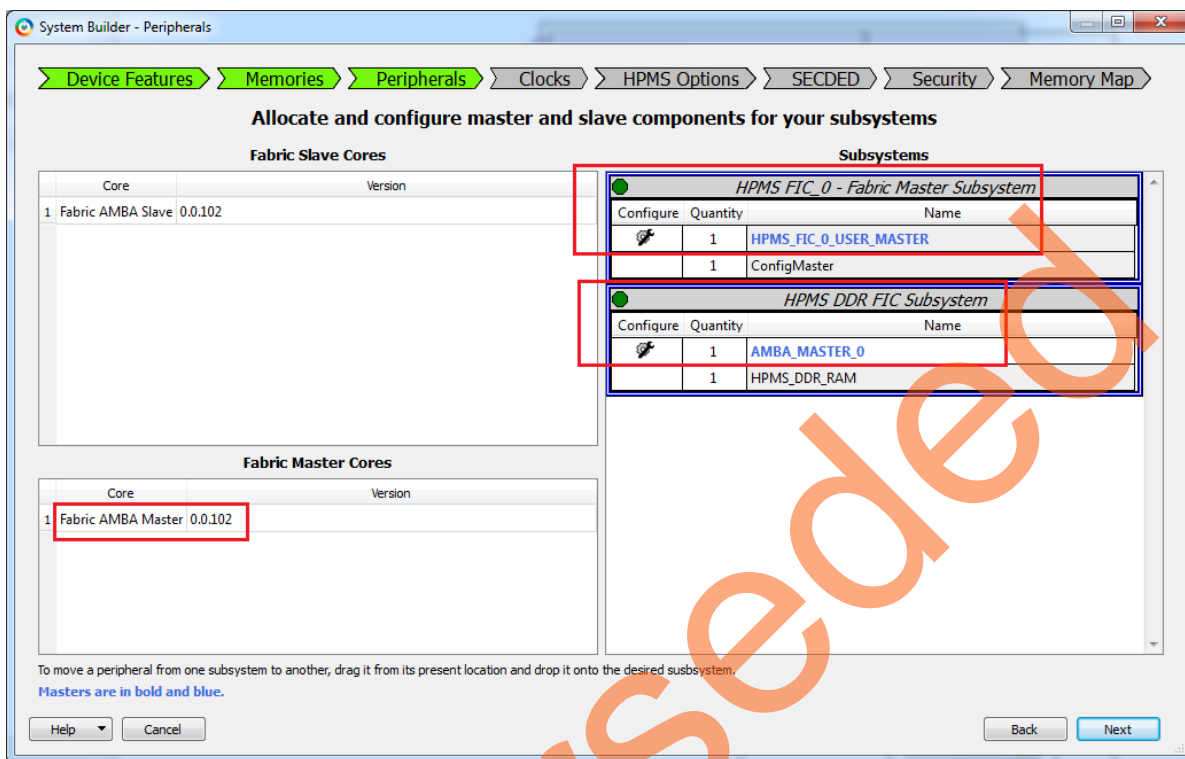

Figure 6 • System Builder - Peripherals
7. Click the **Peripherals** tab. The **System Builder-Peripherals** window is displayed as shown in Figure 6.